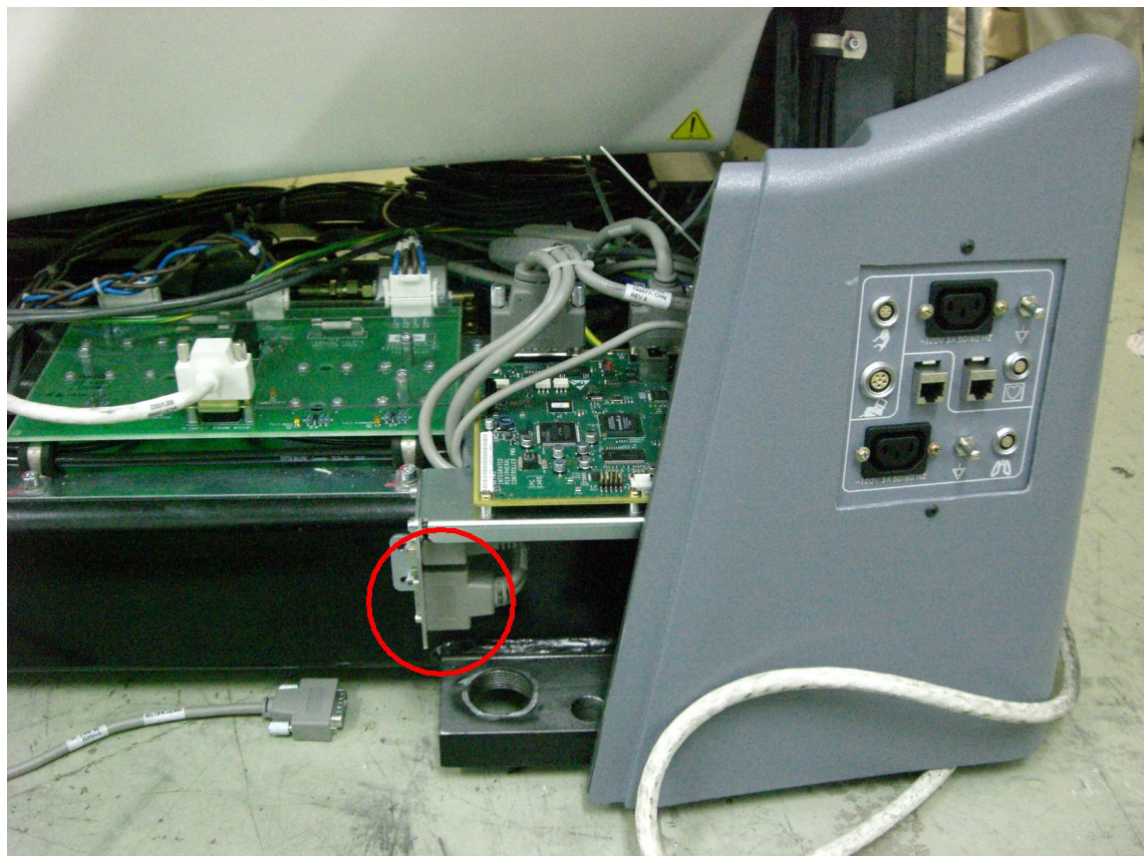

Figure 4-2 Sub D15 Connector (example of BrightSpeed)
- 2.) Remove the right side cover by lifting it upward to release the two (2) latches, located on the top edge of the cover. Once removed, the Service Switch Panel should be exposed.
- 4.) If installed, remove both rear base covers, to gain access to Sub D15 connector on IPC Bracket, as shown in Figure 4-2.